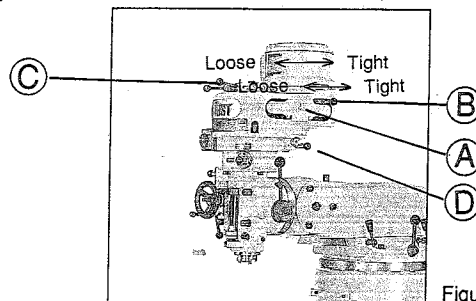

Figure 16
(1) Adjustment and change of Belt Pulley (Figure 16):
- Take off the side cover (A) of front belt pulley.
- Loosen the adjusting motor handle (B) as arrowed in the figure and move the motor forward to loosen the belt.
- Move the motor backward to regain the proper belt tension before the lever (B) is locked up tightly again.
(2) Change of High and Low Speeds: